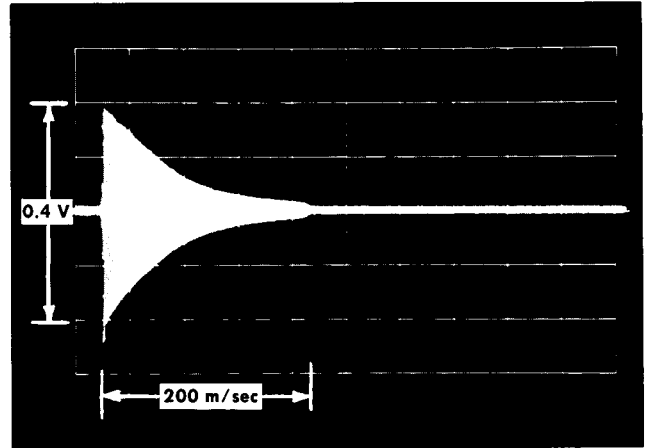

Fig. 5-1. Degauss waveform, coupled through  $10\ \Omega$  loop.
- Check the stored display for a four-centimeter (0.4 V) damped waveform lasting approximately 200 milliseconds. See Fig. 5-1.